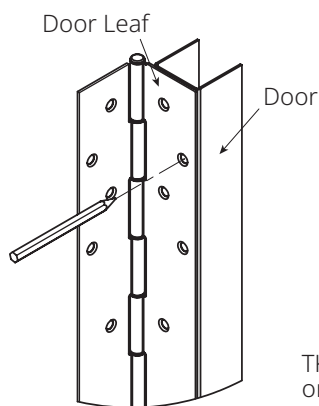

Figure 3
- Mark and center punch each hole on door with hinge held firmly in place (Fig. 3). Remove hinge from door and prepare to drill door.